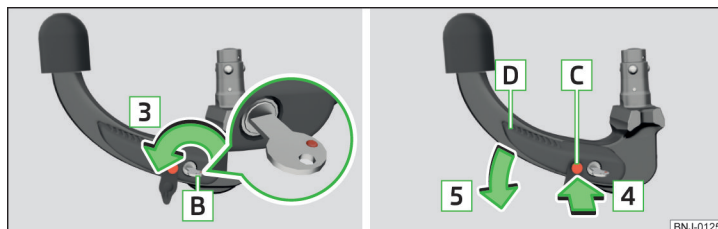

Fig. 244 Lock unlock / press release bolt and lever and push
- › Turn key in the direction of arrow so that the red marking is pointing upwards » Fig. 244.